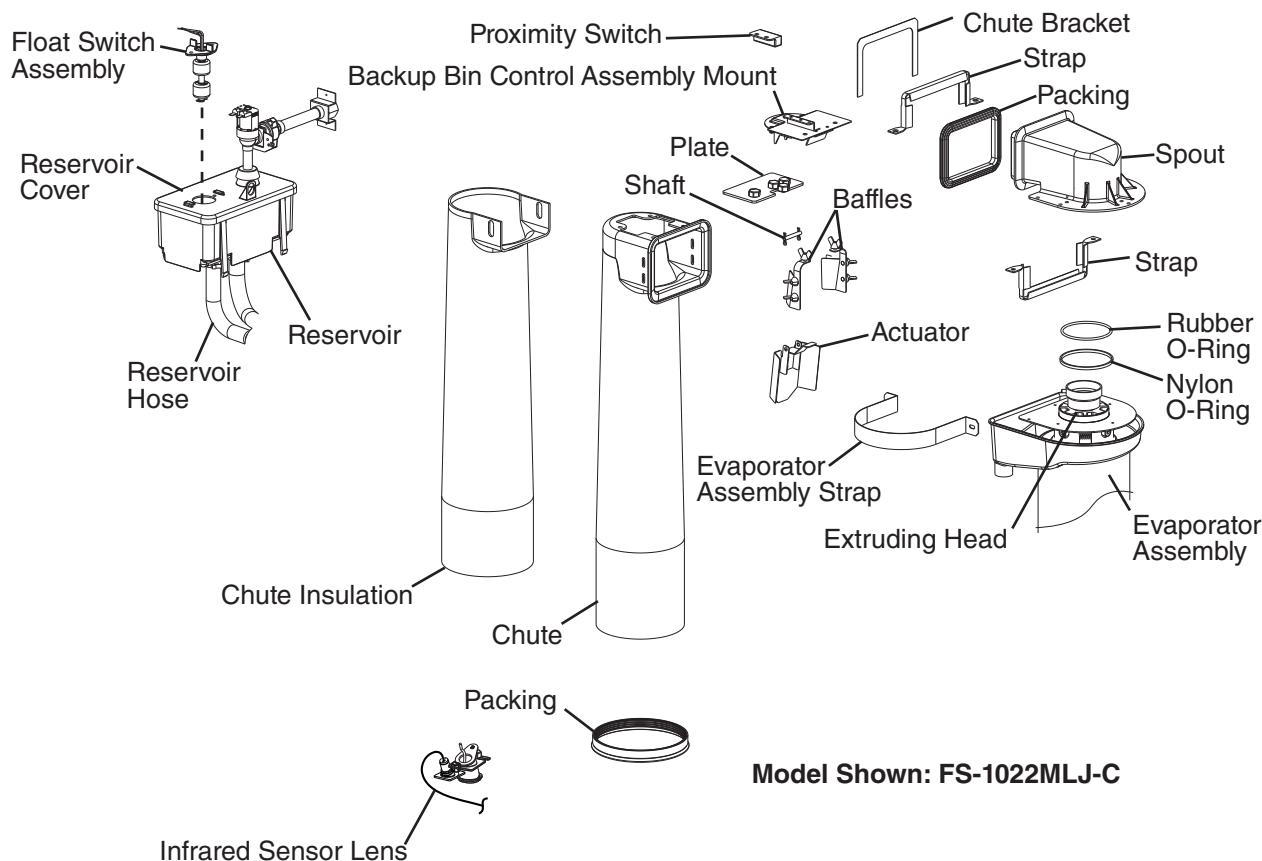

Fig. 13
- 6) Remove the strap connecting the spout to the chute assembly, then remove the spout. See Fig. 13.